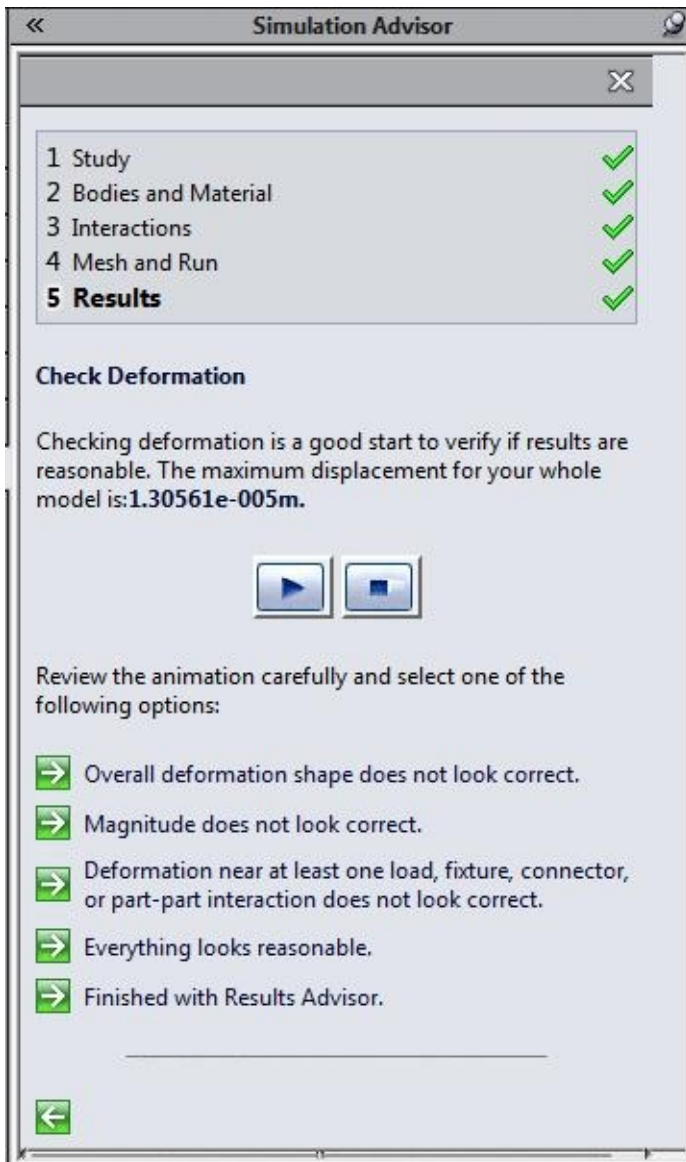

Figure-50. Result page of Simulation Advisor
- In our case, we use the default settings and click on the **Run The Study** link button. First meshing will be processes and then the analysis will be performed. After the analysis is completed, then the results page will be displayed in the **Simulation Advisor** as shown in Figure-50.